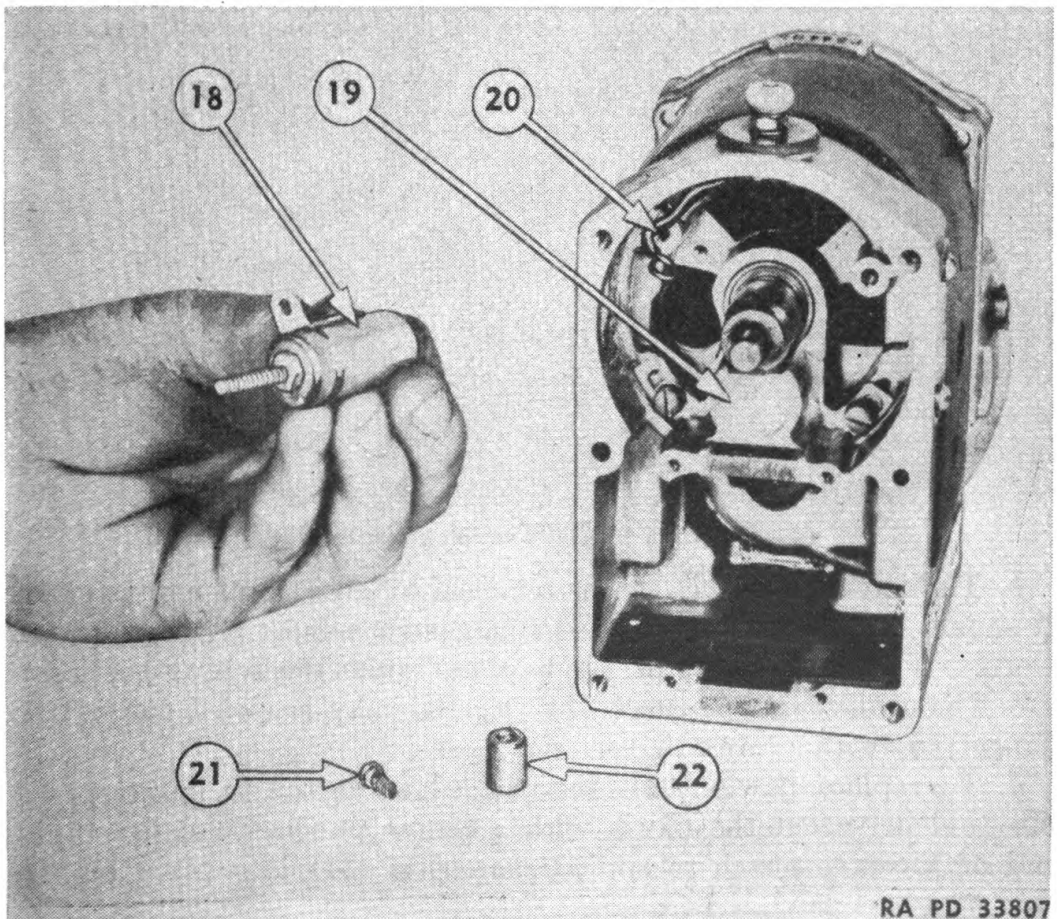

FIGURE 92.—Condenser replacement.
95. Condenser.—To replace the condenser (fig. 92) remove breaker assembly as outlined. Slip off spacer (22) and remove lead
97. Distributor gear and shaft.—*a.* Pry out plug (19) (fig. 92) holding oil wick which lubricates the breaker cam and remove the oil wick.